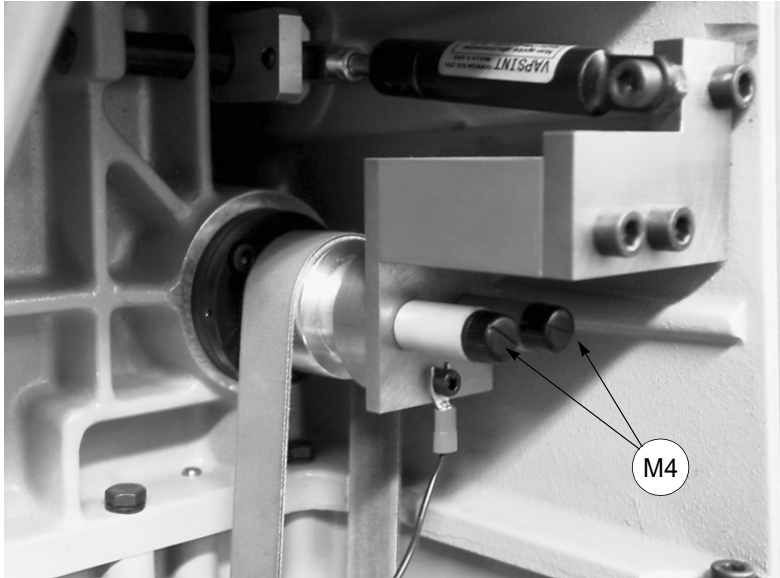

Fig. 155
- 3) install the (Z14) template (fig. 155).
- 2) unscrew the two brush caps (M4) (fig. 155), remove and fit two new brushes.